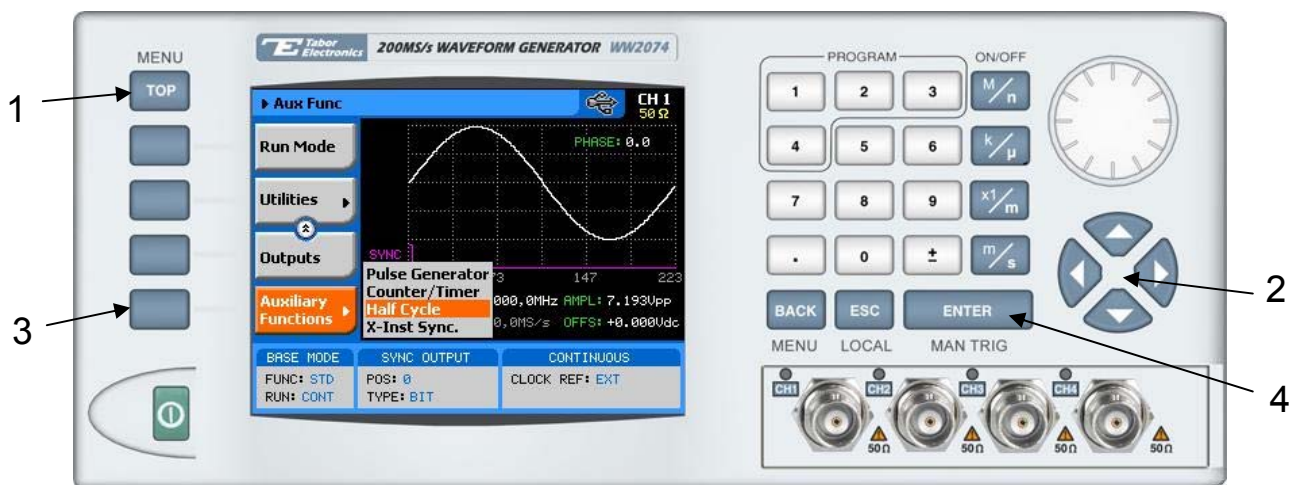

Figure 3-38, Accessing the Digital Pattern Menus
4. Press the Auxiliary Functions soft key and scroll down to highlight the Half Cycle option, as shown in Figure 3-38.